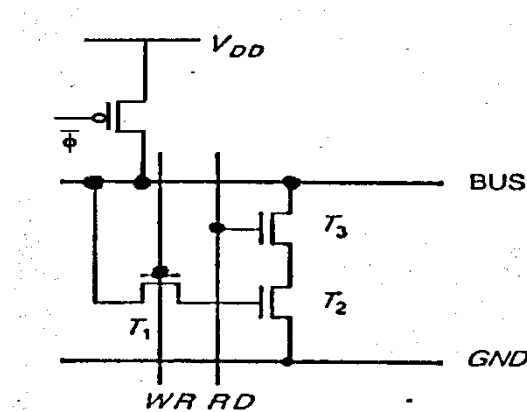

Figure Q4
- (a) Explain briefly the Write and Read operation of the 3-T DRAM cell shown in Figure Q4. (7 marks)